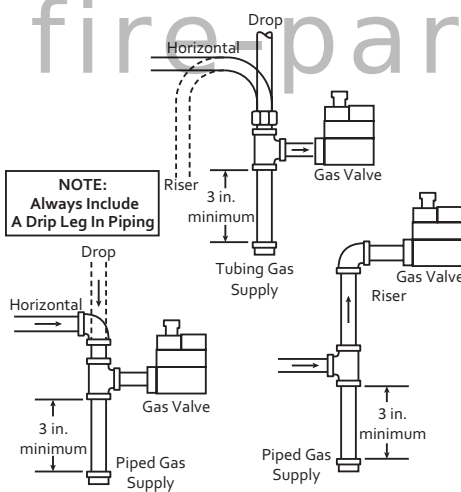

Figure 3. Typical gas valve piping
5. Apply pipe joint compound (pipe dope) or teflon tape that is approved for all gases, **only to the male threads of the pipe joints**. **DO NOT** apply compound or teflon tape to the first two threads (see fig. 3 for typical piping connections).